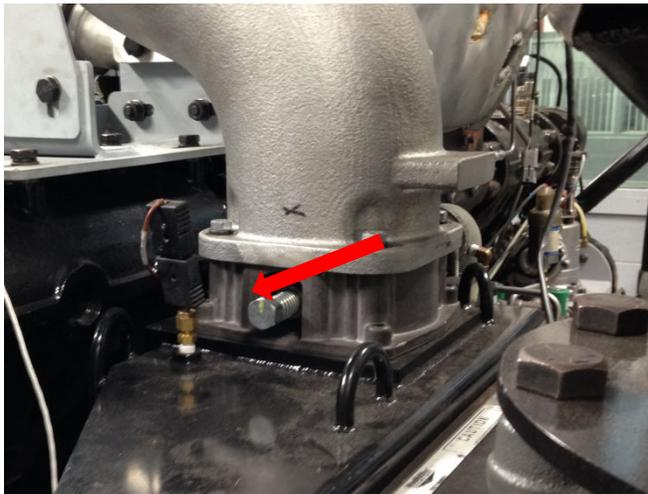

Figure 11-Carburetor Screw
- Based on the fuel WKI that was input in ESP, initial settings for the regulator and carburetor are shown. Turn the carburetor screw fully clockwise (**CW**) then back out the number of turns indicated. See Figure 11.